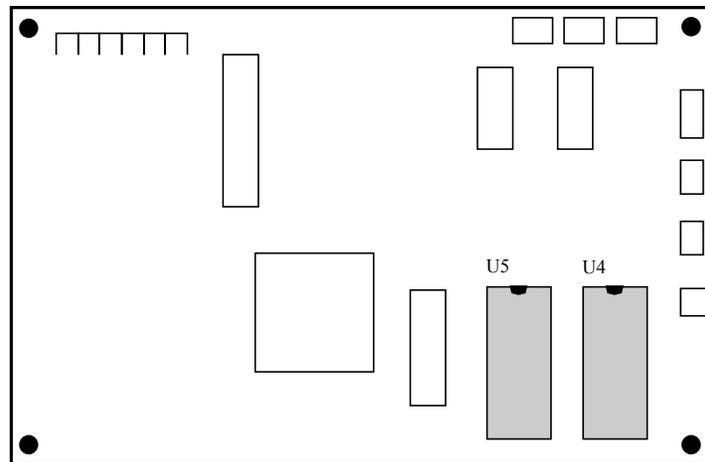

Figure 2-7
4. Locate the applicator board. (See Figure 2-7)
5. Remove the old EPROM from the U5 socket on the applicator board (See Figure 2-7) using a small, flat blade screwdriver or EPROM remover.